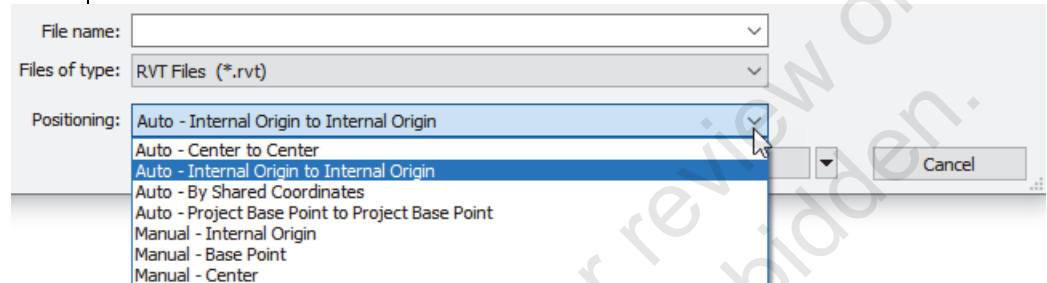

Figure 1–12
2. In the Import/Link RVT dialog box, select the file that you want to link. Before opening the file, set the *Positioning*, as shown in Figure 1–12.